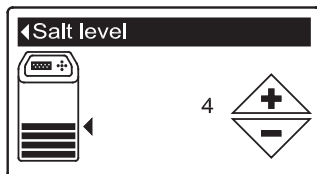

FIG. 28
1. When the conditioner/refiner is displaying the rolling status screens, open the salt lid. The tank light turns on and the Salt level screen appears (See Figure 28).
5. Press the SELECT (O) button to display the Salt level screen (See Figure 28). This screen will not automatically exit for 15 minutes.